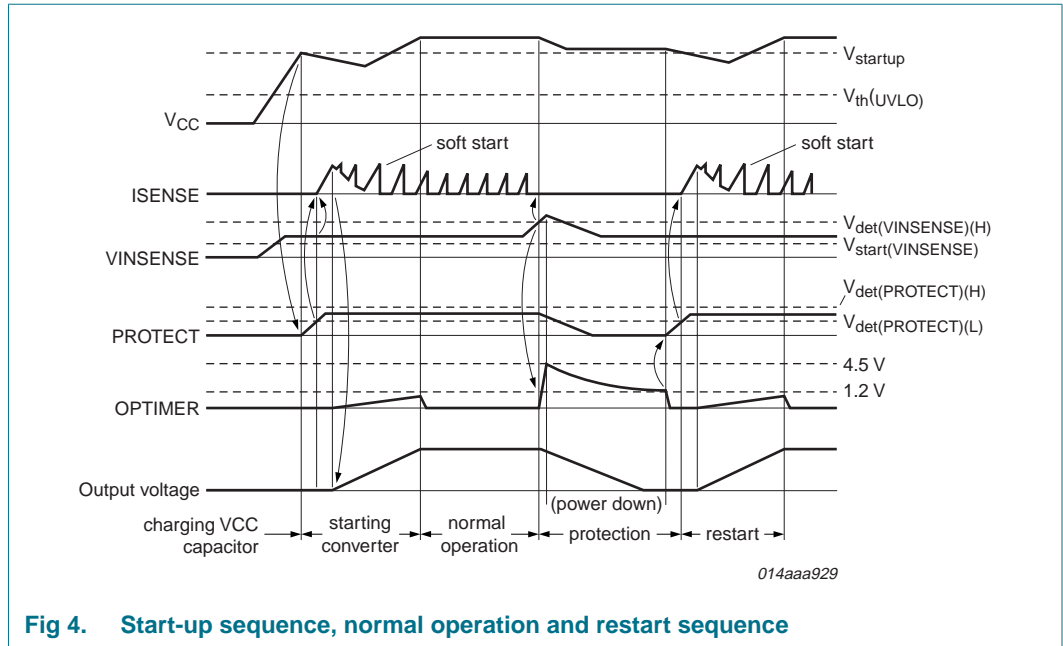

Fig 4. Start-up sequence, normal operation and restart sequence
A restart caused by a protection will charge the OPTIMER pin to 4.5 V (typ.) rapidly. The TEA1733(L) will then enter the Power-down mode until the OPTIMER pin is discharged to 1.2 V (typ.). In Power-down mode, the IC consumes a very low supply current (10 μA typ.) and the VCC pin will be clamped to 22 V (typ.) by an internal clamp circuit. A restart will be made when the voltage on pin OPTIMER drops below 1.2 V (typ.) and the VCC pin voltage is above the VCC start-up voltage (See Figure 4).
To prevent audible noise during start-up or restart, a soft start is made. Before the converter (re)starts, the soft start capacitor on the ISENSE pin is charged. When the converter (re)starts switching, the primary peak current increases slowly when the soft start capacitor discharges through the soft start resistor. (see also Figure 4)